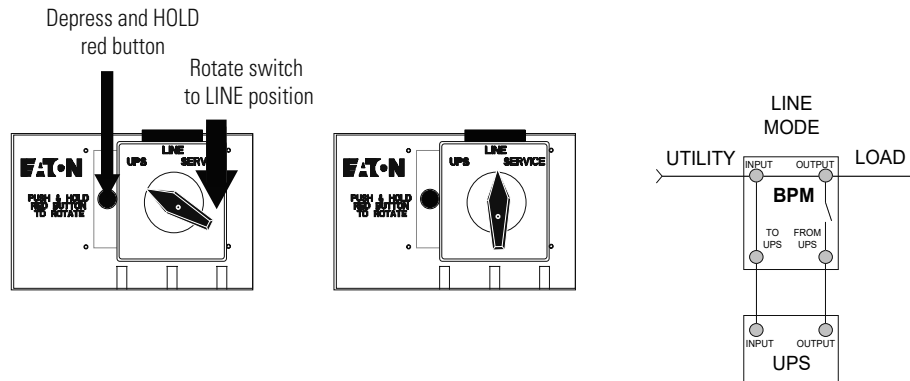

Figure 26. Bypass From UPS to LINE
1. Press and hold the red button and turn the switch to LINE (see Figure 26).